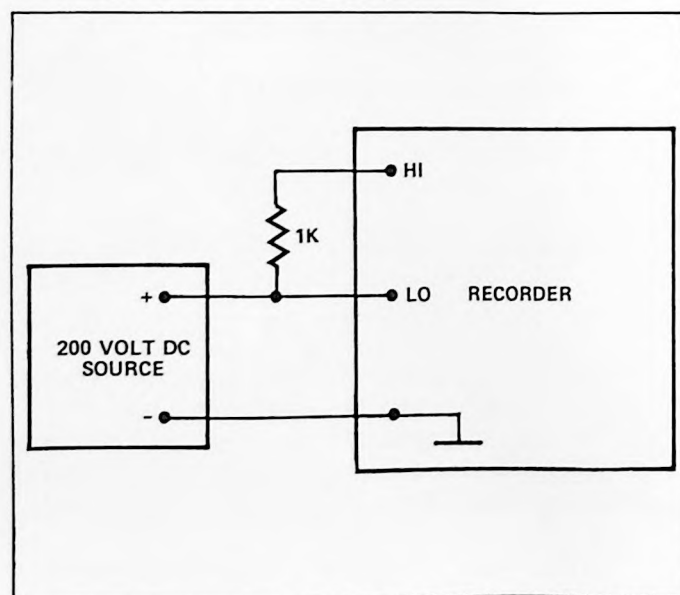

Figure 5-15. Connections for DC CMR Test
a. Set up recorder and connect 200V dc source as shown in Figure 5-15. A resistive unbalance in high lead of less than or equal to 1k is present.